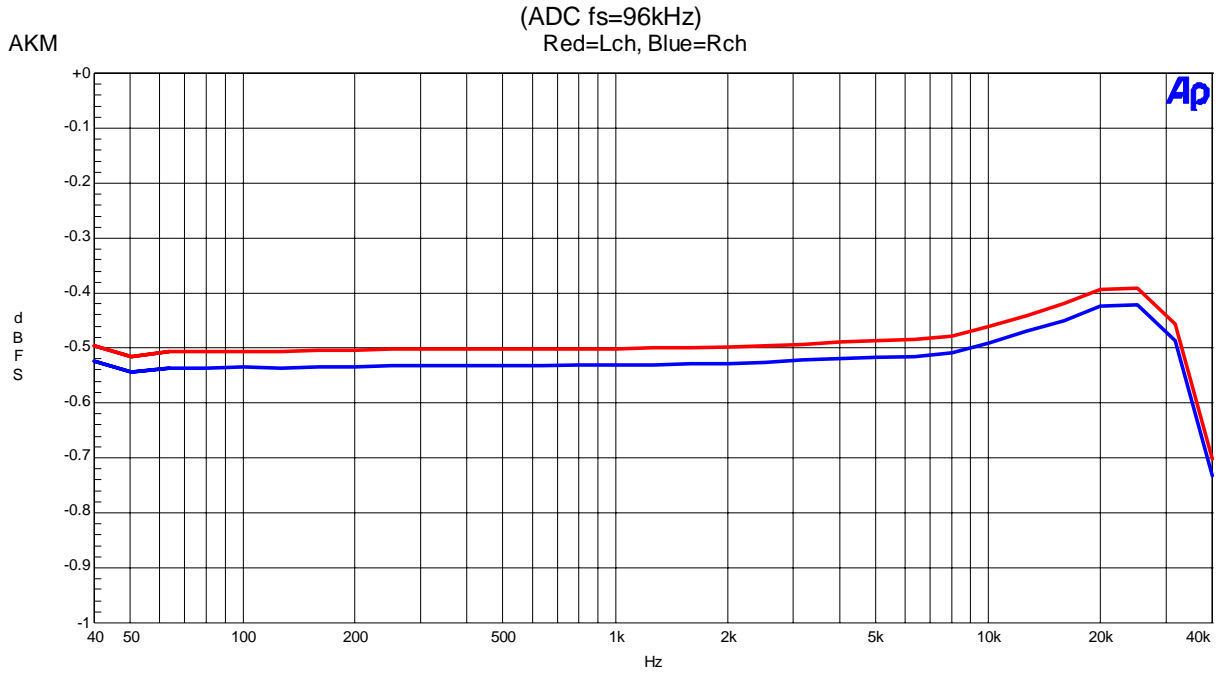

Figure 21 Frequency Response (Input Level=-0.5dBFS)
- Figure 21 Frequency Response (Input level=0dBFS)